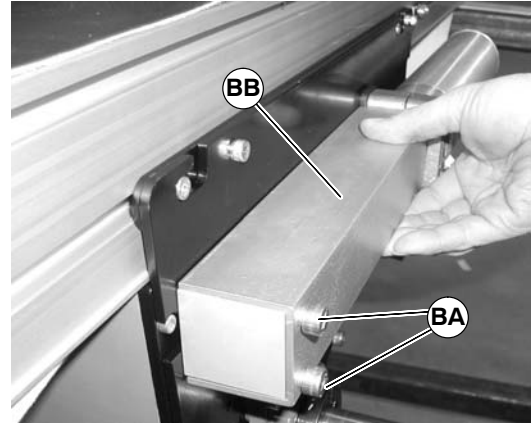

Figure 80
2. Remove screws (BA of Figure 80) and tensioning guards (BB) from both sides of center drive.